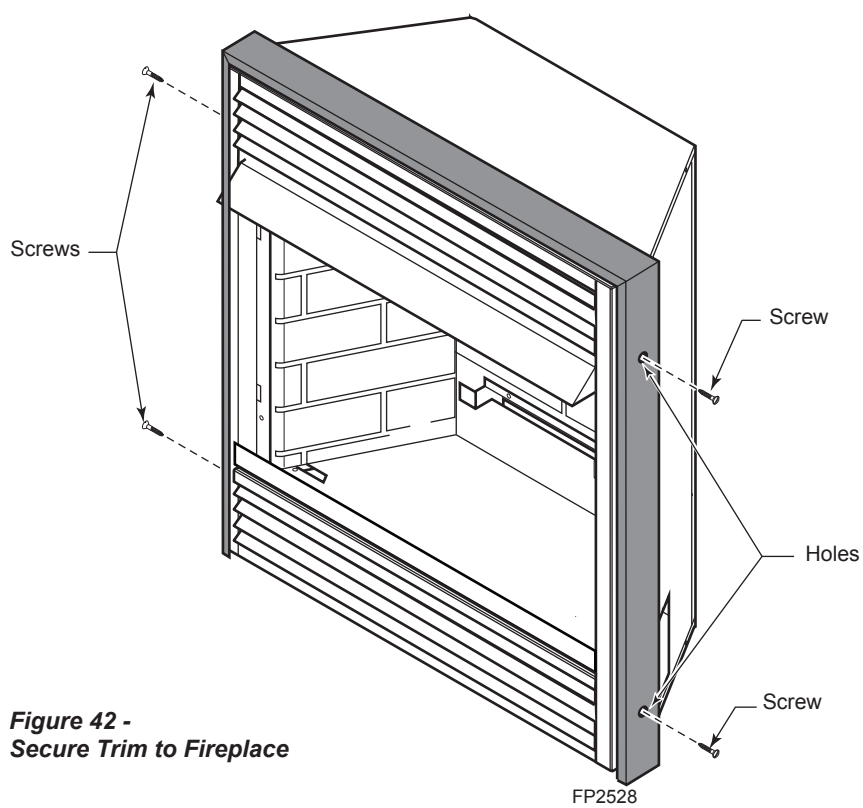

Figure 42 -
7. Align holes in assembled trim with holes in side of fireplace. Using a Phillips screwdriver, attach trim with four (4) screws provided — two for each side of fireplace. Tighten snugly. *Figure 42*